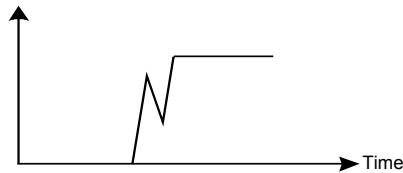

Figure 8
*The open of C_D terminal may cause double pulses shown in Figure 8 at release. If the double pulses cause a trouble, attach 10pF or larger capacitor to the C_D terminal. Do not apply the voltage to the C_D terminal.